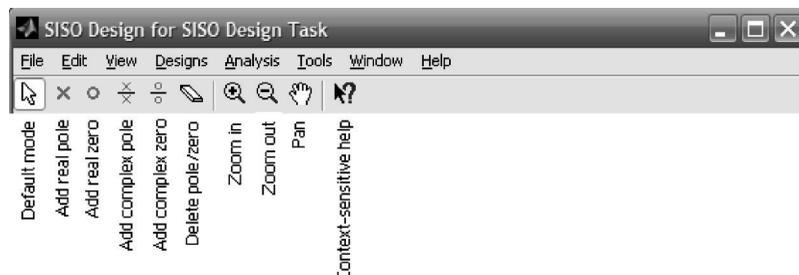

FIGURE E.13 SISO Design for SISO Design Task window toolbar
Add poles, zeros, and compensators Poles and zeros may be added from the **SISO Design Tool** window toolbar shown in Figure E.13. Use the **SISO Design for SISO Design Task** toolbar and select the desired compensator. Your cursor shows that a compensator was selected. Point your cursor arrow to the point on the root locus or Bode plot where you want to add the compensator and click. The compensator is shown in the **Control and Estimation Tools Manager** window under the **Compensator Editor** tab. The effect of adding the compensator is immediately seen in the root locus, Bode plots, and **LTI Viewer for SISO Design Task** window. You may change the way the compensator is represented by going to **SISO Tool Preferences . . .** under the **Edit** menu. Select the **Options** tab and choose the compensator format you want.
root locus or Bode plot. When the cursor changes to a hand, hold down the left button of your mouse and drag the pole or zero to a new position. (2) Choose **Designs** then **Edit Compensator . . .** on the **SISO Design for SISO Task** window menu bar. In response, MATLAB produces the **Control and Estimation Tools Manager**. Under the **Compensator Editor** tab you can type in another location for compensator zeros and poles. (3) Poles and zeros can be erased using the eraser on the tool bar in Figure E.13. Select the eraser with your mouse and click on the pole or zero you wish to erase. The effect of editing the compensator is immediately seen in the root locus, Bode plots, and **LTI Viewer for SISO Design Task** window.